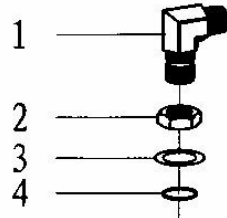

Fig. 17
- Bend sub (9/16-18UNF) (**Fig 17, Table 14**)